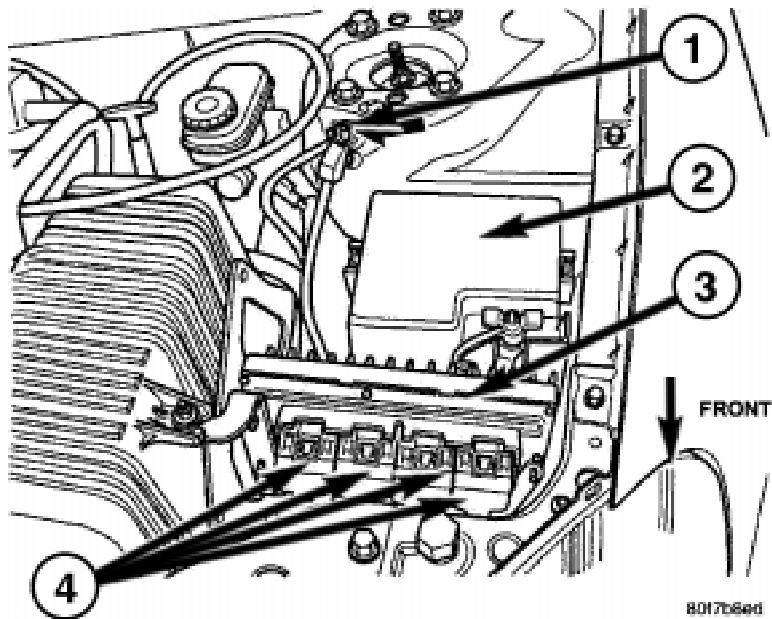
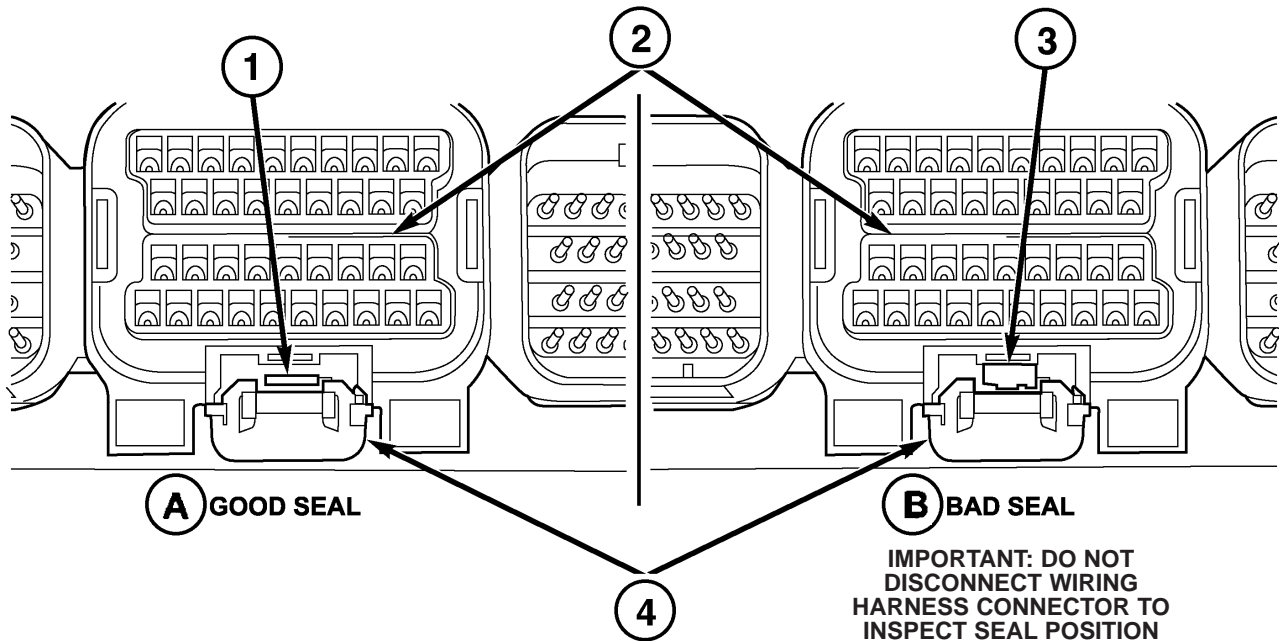

FIGURE 1 – JR Vehicle Shown
FIGURE 2
6. Rotate the PCM to visually inspect the four (4) PCM electrical connectors (Figure 1) for the presence of an out of place seal (Figure 2). Do not disconnect the connectors. **If the LIGHT BLUE colored seal can be seen through the red locking tab, it is improperly installed or out of place.**
7. Disconnect each PCM electrical connector that has the **light blue seal** visibly out of place (Figure 2).
10. Verify that all seals are in place (Figure 2).
2. Remove the three (3) PCM-to-bracket bolts, then remove the PCM from the bracket and set it aside for return to the Warranty Material Return Center.
5. ● If only the PCM required replacement (DR/KJ vehicles with a Motorola PCM), carefully reconnect the PCM connector(s). This may take several attempts. Be sure to insert the connector straight into the module. If the connector is not inserted straight into the module, it may cause the seal to move out of place. Verify that all seals are in place (Figure 2) and then continue with **Section F – PCM/Vehicle Data Set-up**.
13. Verify that all seals are in place (Figure 2).